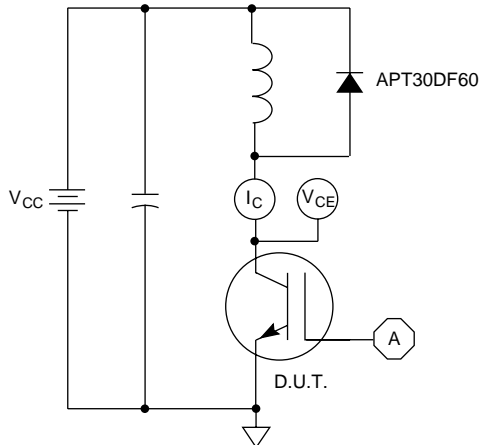

Figure 21, Inductive Switching Test Circuit
- ⑤  $E_{on2}$  is the clamped inductive turn-on energy that includes a commutating diode reverse recovery current in the IGBT turn-on switching loss. A Combi device is used for the clamping diode as shown in the  $E_{on2}$  test circuit. (See Figures 21, 22.)
- ⑥  $E_{off}$  is the clamped inductive turn-off energy measured in accordance with JEDEC standard JEDS24-1. (See Figures 21, 23.)